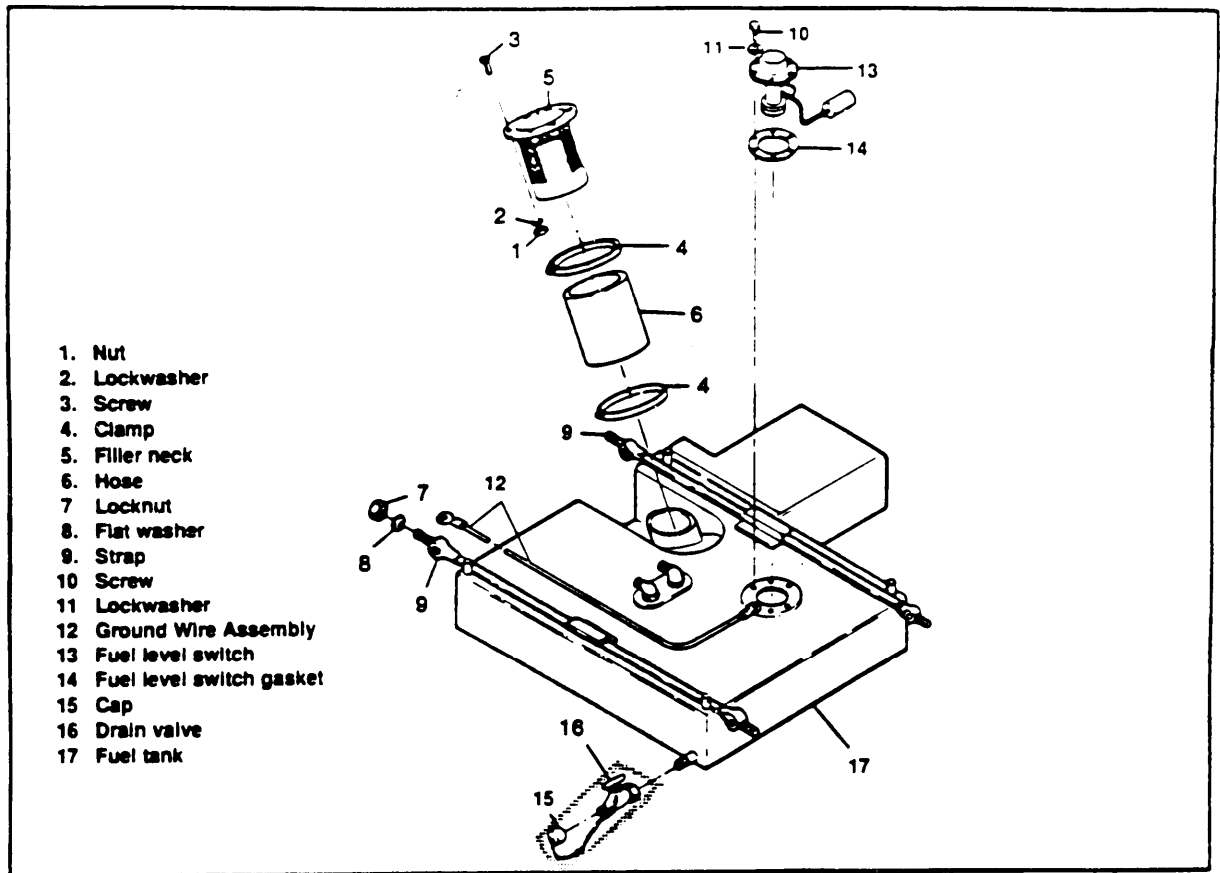

Figure 3-17A. Main Fuel Tank (Plastic), Removal and Installation
(3) Remove main fuel tank (plastic) by following the ascending numerical sequence numbers 1-17, as per figure 3-17A.
(2) Install main fuel tank (plastic) in reverse order of removal procedurcs, as per figure 3-17A.